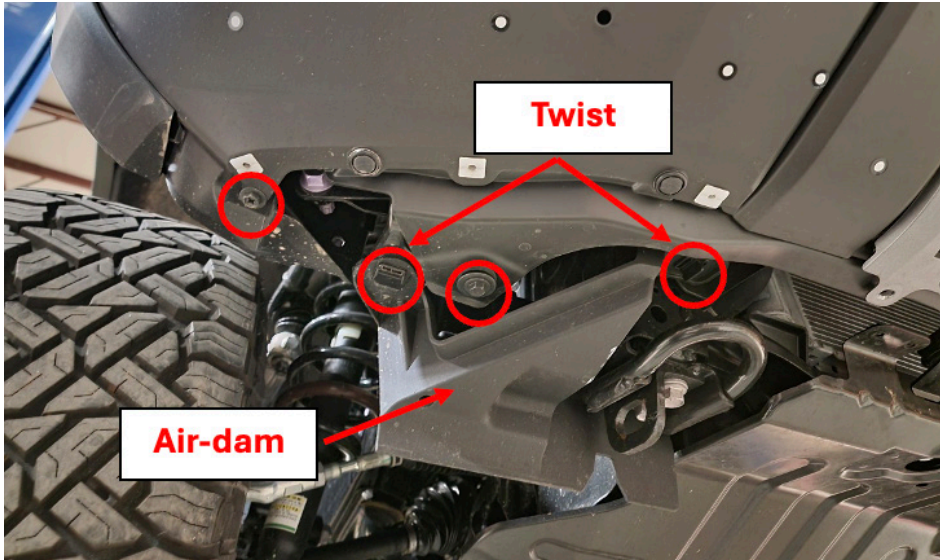

Figure 6.
5. Remove the driver and passenger side tow hook air dams by removing the 2x twist push pins. Remove the 2x 10mm bolts at the lower portion of the bumper wings. Figure 6.